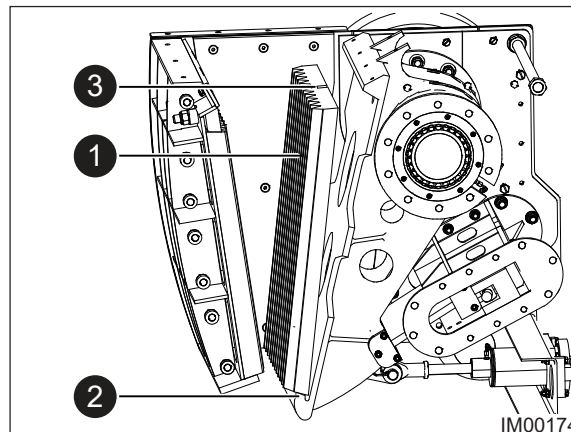

Fig: 11.33 - Attaching Lifting Eye
6. With extreme caution, using a pry bar, pry the jaw plate forward to the position shown (Item 1), ensuring the jaw plate remains in the Holder (Item 2). Ref: Fig: 11.33.
7. Attach an M24 eyebolt and nut into the slot in the jaw plate (Item 3, Fig: 11.33), ensuring that the eyebolt and nut are tight.
13. Lower the jaw plate until it is correctly seated in the Holder (Item 2, Fig: 11.33). The space between the side walls and the jaw plate requires to be even on both sides.
14. With extreme caution, using a pry bar, hold the jaw plate in the upright position (Item 1, Fig: 11.33) and remove the lifting equipment, along with the M24 eyebolt and nut. Do not use hands to remove. Slacken the lifting equipment and allow the eyebolt to come out freely.